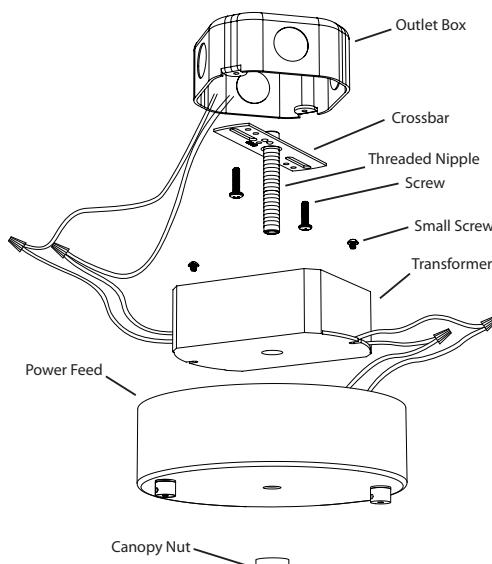

Fig. 2
#### Deep Power Feed Installation (Fig. 2):
9. Flip **Wing Tabs** inward so that the Minibox will fit into the drywall opening (Fig. 2).
12. Flip **Wing Tabs** inward so that the Minibox will fit into the drywall opening (Fig. 2).
13. Slide **O-rings** along **Mounting Screws** so that they are flush against the **Wing Tabs** (Fig. 2).